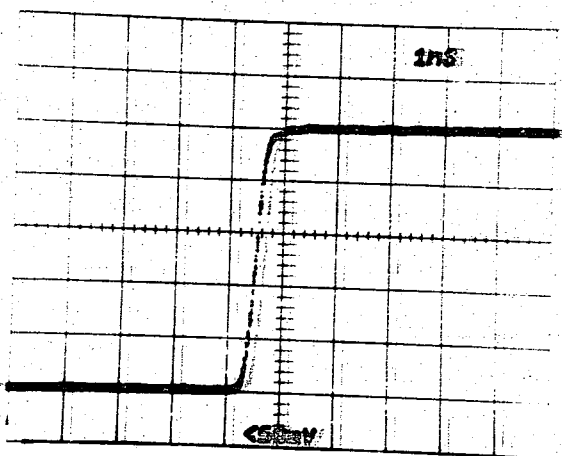

Fig. 7-10: 284 Step Signal. Variable VOLTS/DIV set for 5 divisions.
k. Set the red CH 1 VOLTS/DIV/variable CAL control so the amplitude of the step is precisely five divisions (see Fig. 7-10).